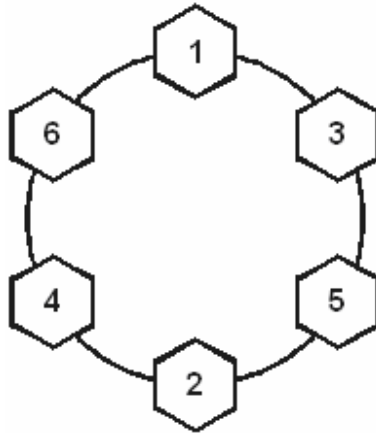

Figure 3-4. Wheel Nut Tightening Sequence
- For correct wheel nut tightening sequence, refer to Figure 3-4.